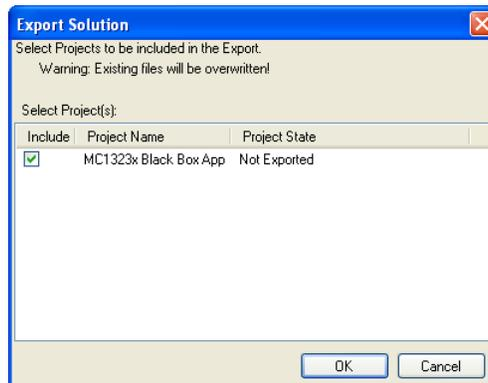

Figure 6-7. Export Solution Window
12. From the menu select Solution\Export Solution. The Export Solution window appears, as shown in Figure 6-7.